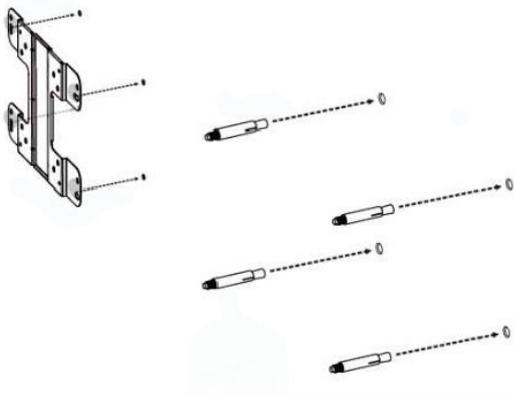

Figure 8: Preparing the mounting location
2. Remove the nut and washer from the bolts and place the bolts in the holes as shown below in figure 8.